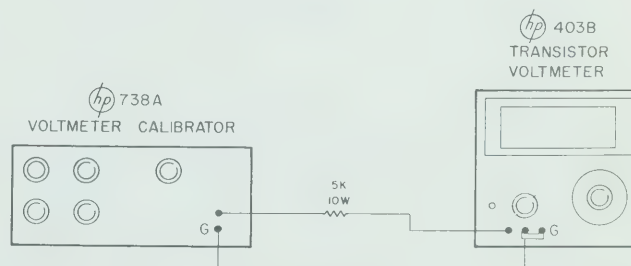

Figure 5-8. Overload Check Setup
b. Connect the 738AR, with OUTPUT SELECTOR set to OFF, to the 403B through a 15K, 10-watt resistor as shown in figure 5-8.